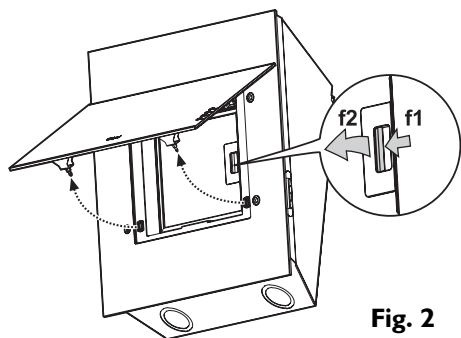

Fig. 2
3. Remove the grease filter/s (Fig. 2). To do so, pull the spring release handle back (f1) then remove the filter/s (f2).
1. Open the front panel and remove the grease filter (Fig. 2).